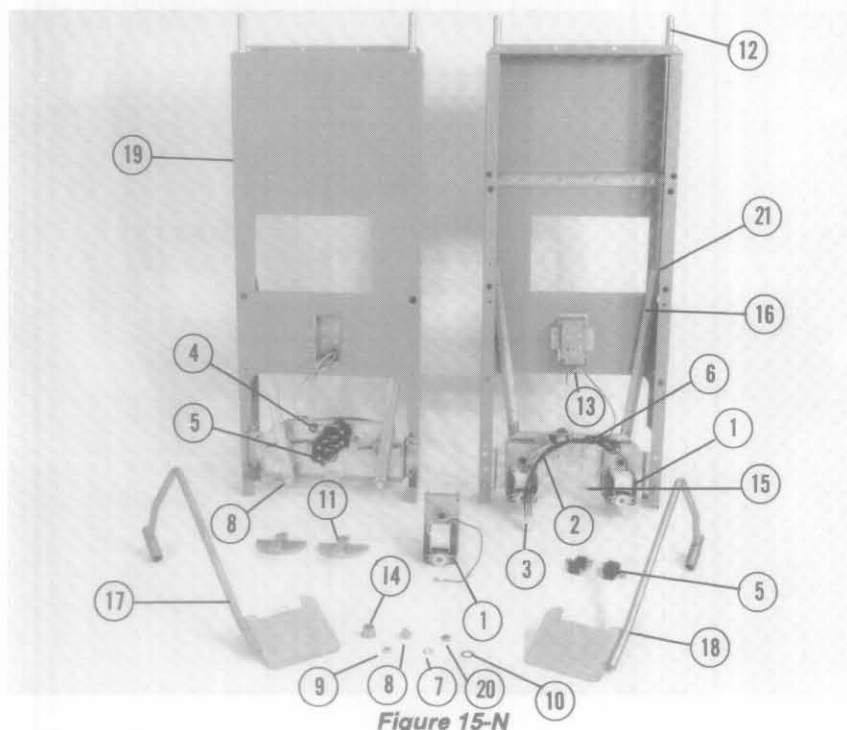

Figure 15-N
16. PARTS LIST (CONT'D)-BASKET LIFT (Refer to Figure 15-N)